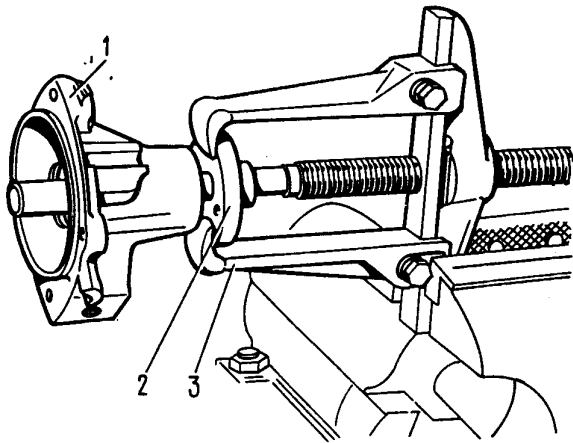

Fig. 2-64. Removing Pulley Hub:
- remove hub 2 (Fig. 2-64) of the fan pulley from the shaft with remover tool A.40005/1/5;